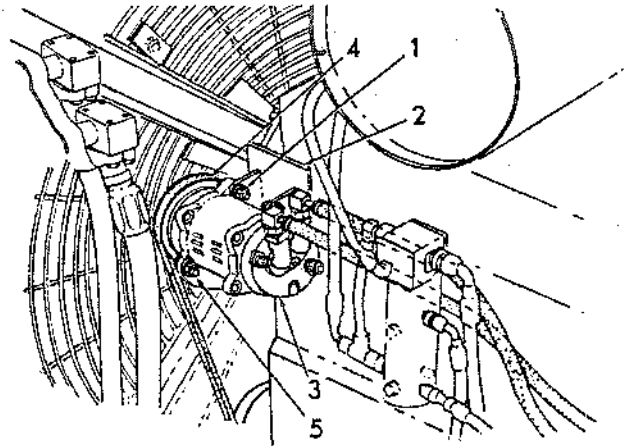

FIG. 29 COMPRESSOR BELT ADJUSTMENT
To adjust belt, loosen four clamping capscrews, Fig. 29 (1). Loosen jam nut on adjusting screw (5).